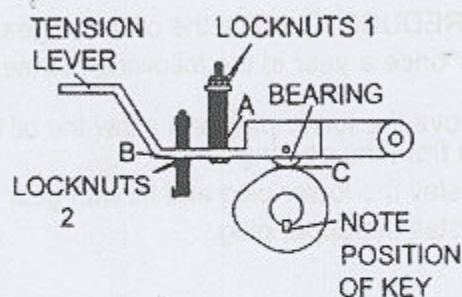

FIGURE 23. ADJUSTING TENSION LEVER
1. Manually turn the rotor of the electromagnetic clutch until the key, seen at the end of the end of the cam shaft is positioned as shown in Figure 23.